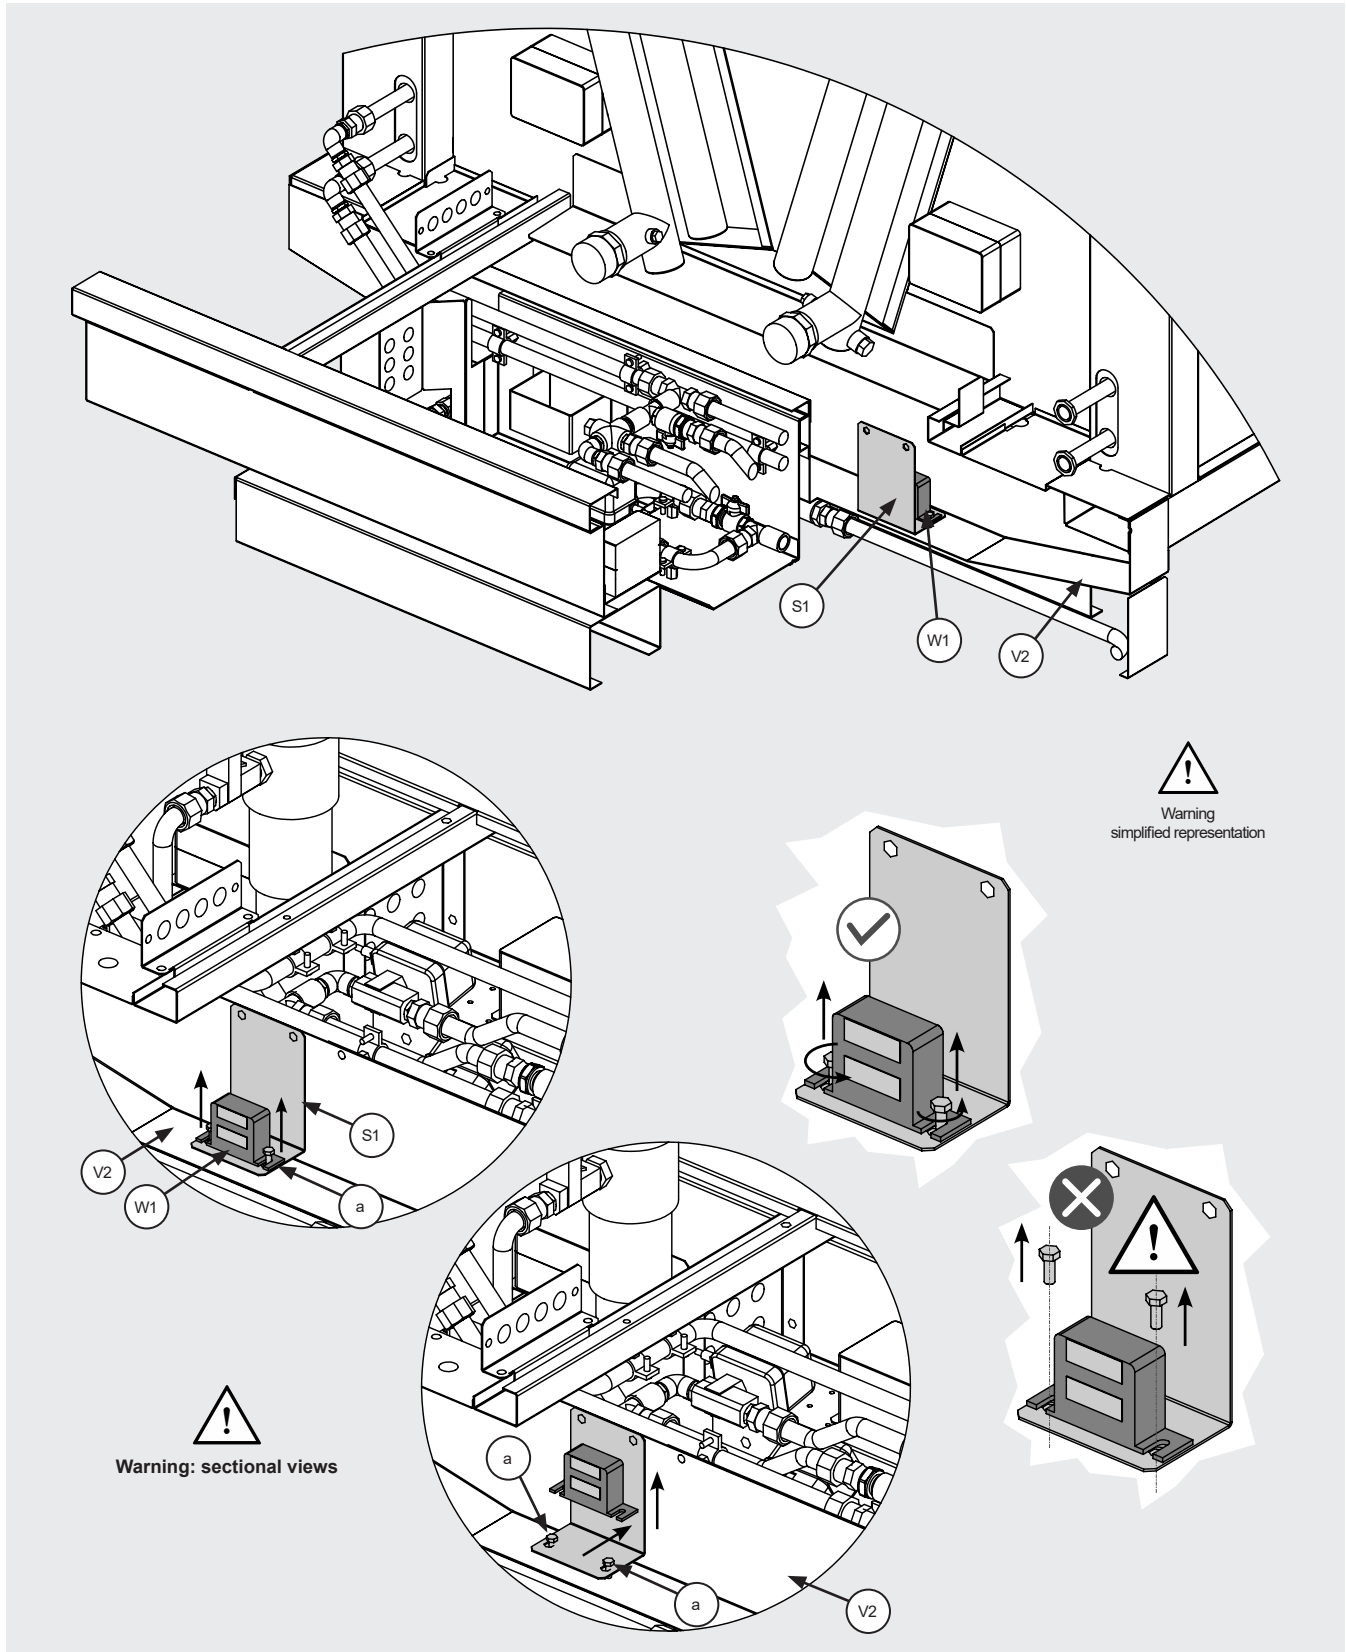

Figure 28
12.16.4 For replacement of level switch (W1), see Figure 28. (W1) is housed on a bracket (S1) which holds it in place.